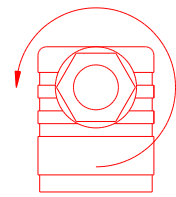

Fig. 8
Loosen the screwed union PG 9 (5), (fig. 8).